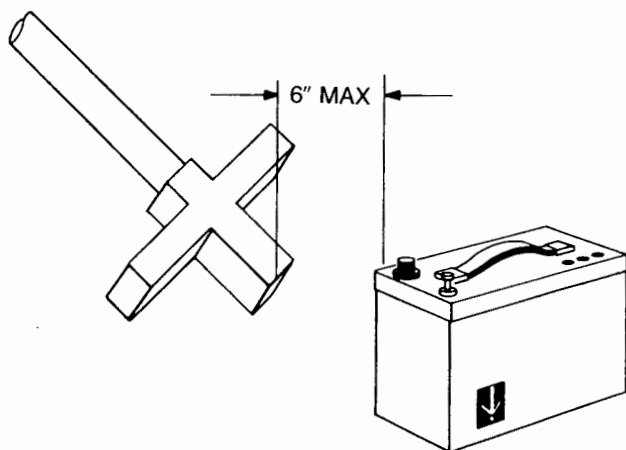

Figure 3-2: Position of the Receiver for Checkout Procedure, Step 6
6. Position the Receiver as shown in Figure 3-2. The end of the Receiver needs to be close to the Transmitter, not more than 6 inches away. The digital signal strength indicator should display 950 or above.
7. With the Receiver Selector Switch in the line tracing mode (third position), move the Receiver back from the Transmitter 2-5 feet. Point the Receiver at the Transmitter as in Figure 3-2, the left/right guidance needle will be centered on the meter and the tone will be silent.